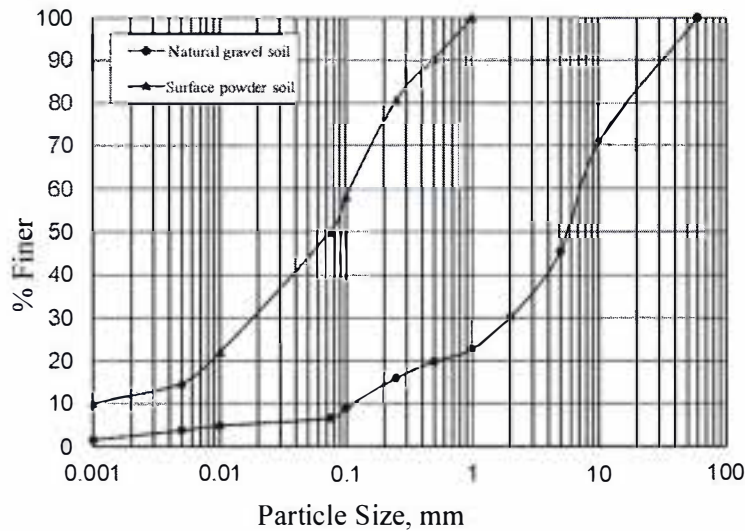

Fig. 1
1. (i) The particle size distribution curve (given in Fig. 1) is extracted from a soil test report. Judge that the soil classified as 'Natural gravel soil' in Fig.1 is correct according to Unified Soil Classification System (USCS). Determine the symbol for the soil by applying USCS. 8
- (ii) Identify the probable classifications according to USCS for the soil named 'Surface powder soil' in Fig. 1. 2